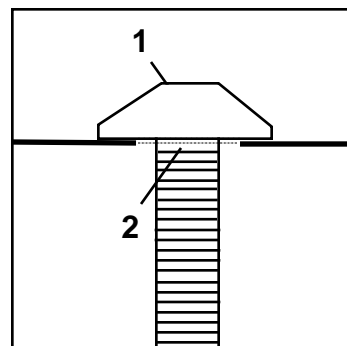

Figure 3
1. At right front corner of center section insert oval T-bolt in square-shaped reference hole on underside of rocker panel. (See Figure 3.) Turn bolt head so that it straddles the reference hole allowing bolt to hang freely from the reference hole.